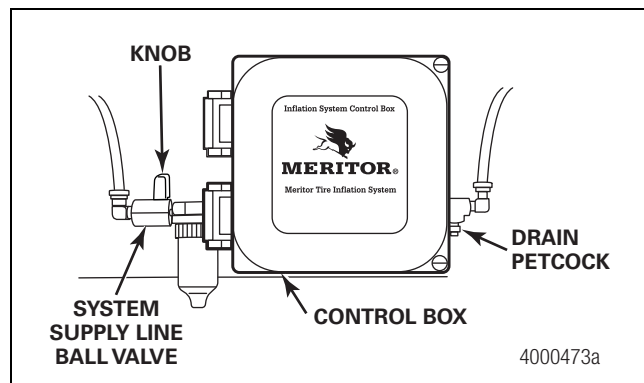
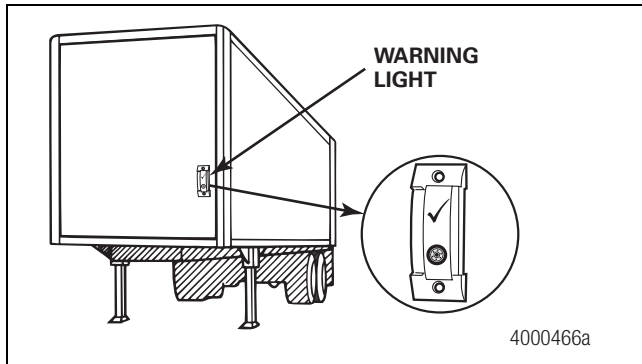

Figure 3.1
Figure 3.4
2. Check that the system ball valve is open. When the valve is open, the knob aligns with the valve body. Also, check that the drain petcock is closed. Figure 3.1.
6. Check the warning light by opening the drain petcock at the control box. Figure 3.4. The warning light will come ON when the petcock is open and turn OFF when the petcock is closed. Figure 3.1.